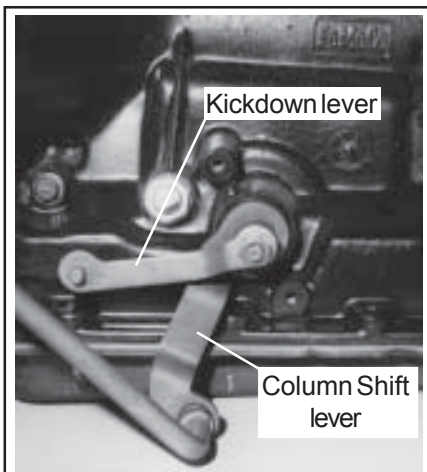

Figure 1
Powerglide: Disconnect throttle pressure lever at transmission (See Fig. 1).
Column Shift Models: Connect rod or cable to shift lever on transmission. (See Fig. 1) Snap rod into grommet retainers by squeezing rod and lever together with a pair of pliers. Connect rod or cable to clip retainer levers and install clip.
STEP 25. Connect kickdown linkage. (See Fig. 1 & 2) Connect rod or cable kickdown lever and install clip. Kickdown linkage should work smoothly with a positive spring return action.